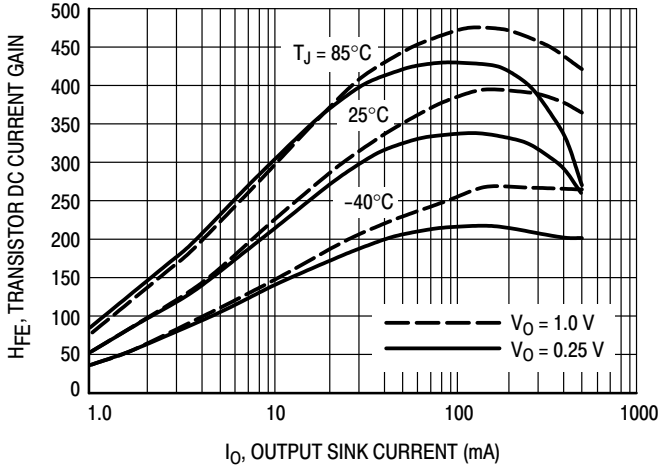

Figure 2. Transistor DC Current Gain
- While keeping any  $V_{O(sat)}$  requirements in mind, determine the max input current needed to achieve that output current from Figures 2 and 6.